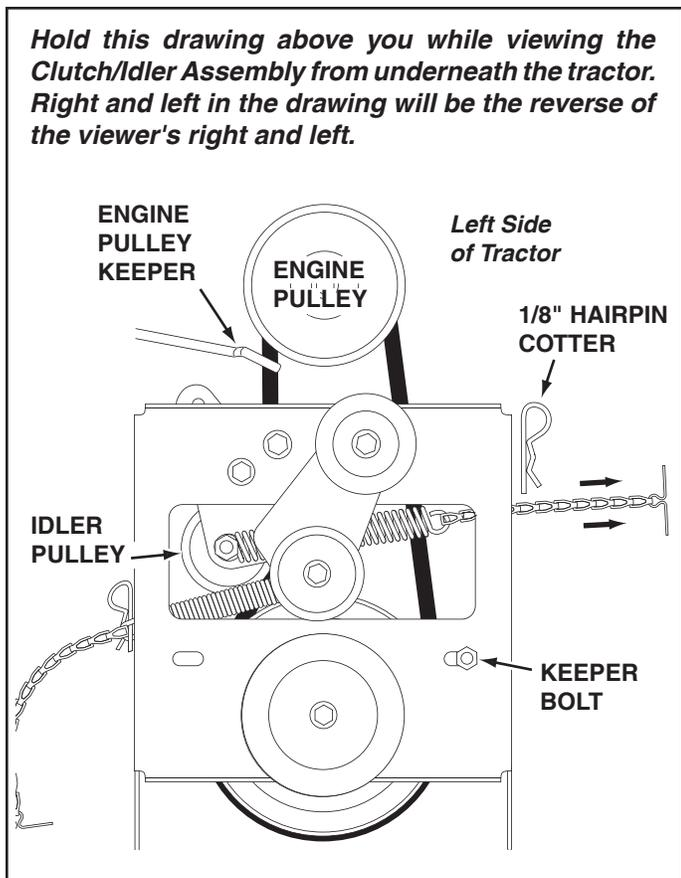

FIGURE 22 VIEWED FROM UNDERNEATH
- Assemble the short "V" belt onto the engine pulley and then onto the large pulley on top of the clutch/idler assembly. The belt must be placed to the inside of the engine pulley keeper, the idler pulley and the keeper bolt located beside the large pulley. See figure 22.
- Place tension on the belt by pulling the left side tensioning chain out as far as the 5/64" hairpin cotter will allow. Secure the chain in this position by inserting a 1/8" hairpin cotter through the chain. See figure 22.